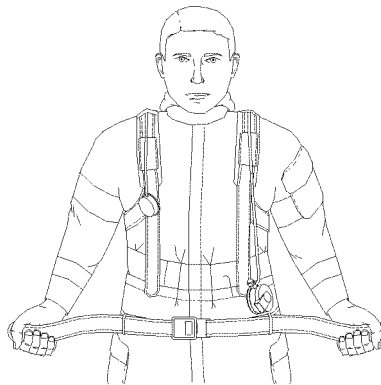

Figure 077-3-19. Tightening Waist Adjustment Straps for Coat-Style Method
- (6) Simultaneously pull waist adjustment straps forward to tighten as shown in Figure 077-3-19.